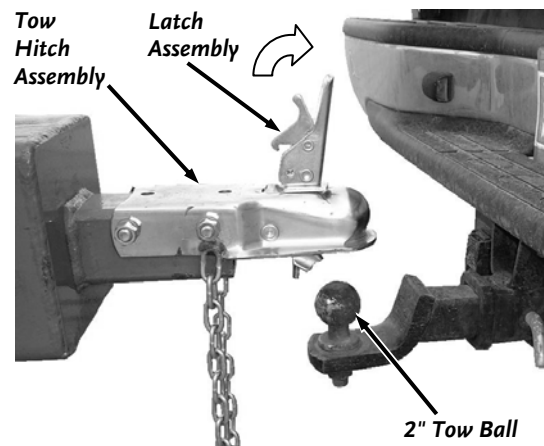

Figure 29
1. Position the Backhoe behind the tow vehicle and raise or lower the Jack to position the Tow Hitch just over the Tow Ball (**Figure 29**).